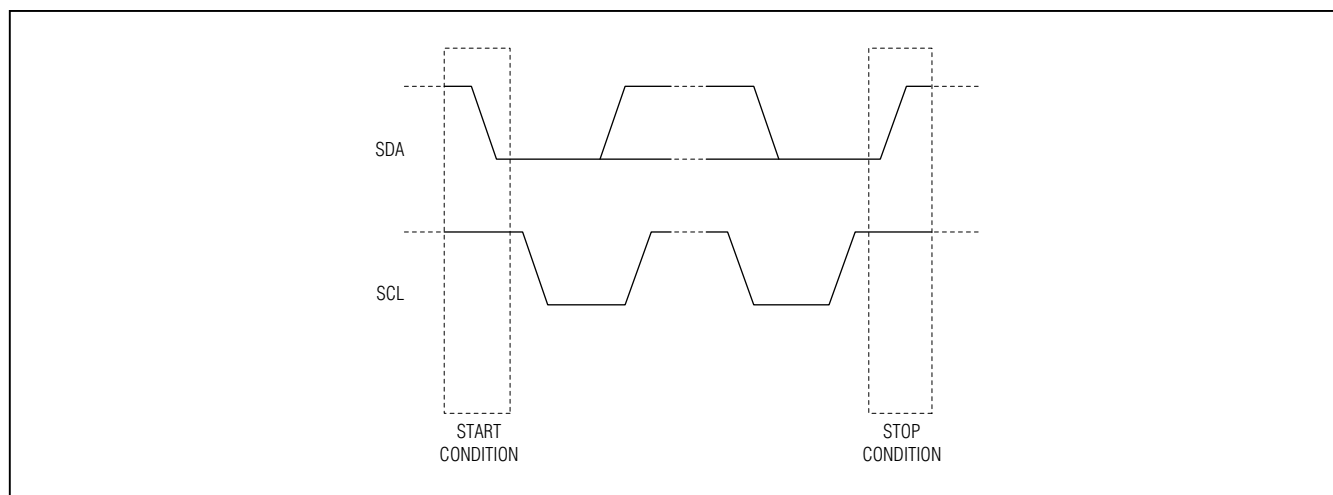

Figure 10. START and STOP Conditions
Both SCL and SDA remain high when the bus is not busy. The master signals the beginning of a transmission with a START (S) condition by transitioning SDA from high to low while SCL is high. When the master has finished communicating with the MAX8893A/MAX8893B/MAX8893C, it issues a STOP (P) condition by transitioning SDA from low to high while SCL is high. The bus is then free for another transmission (Figure 10). Both START and STOP conditions are generated by the bus master.